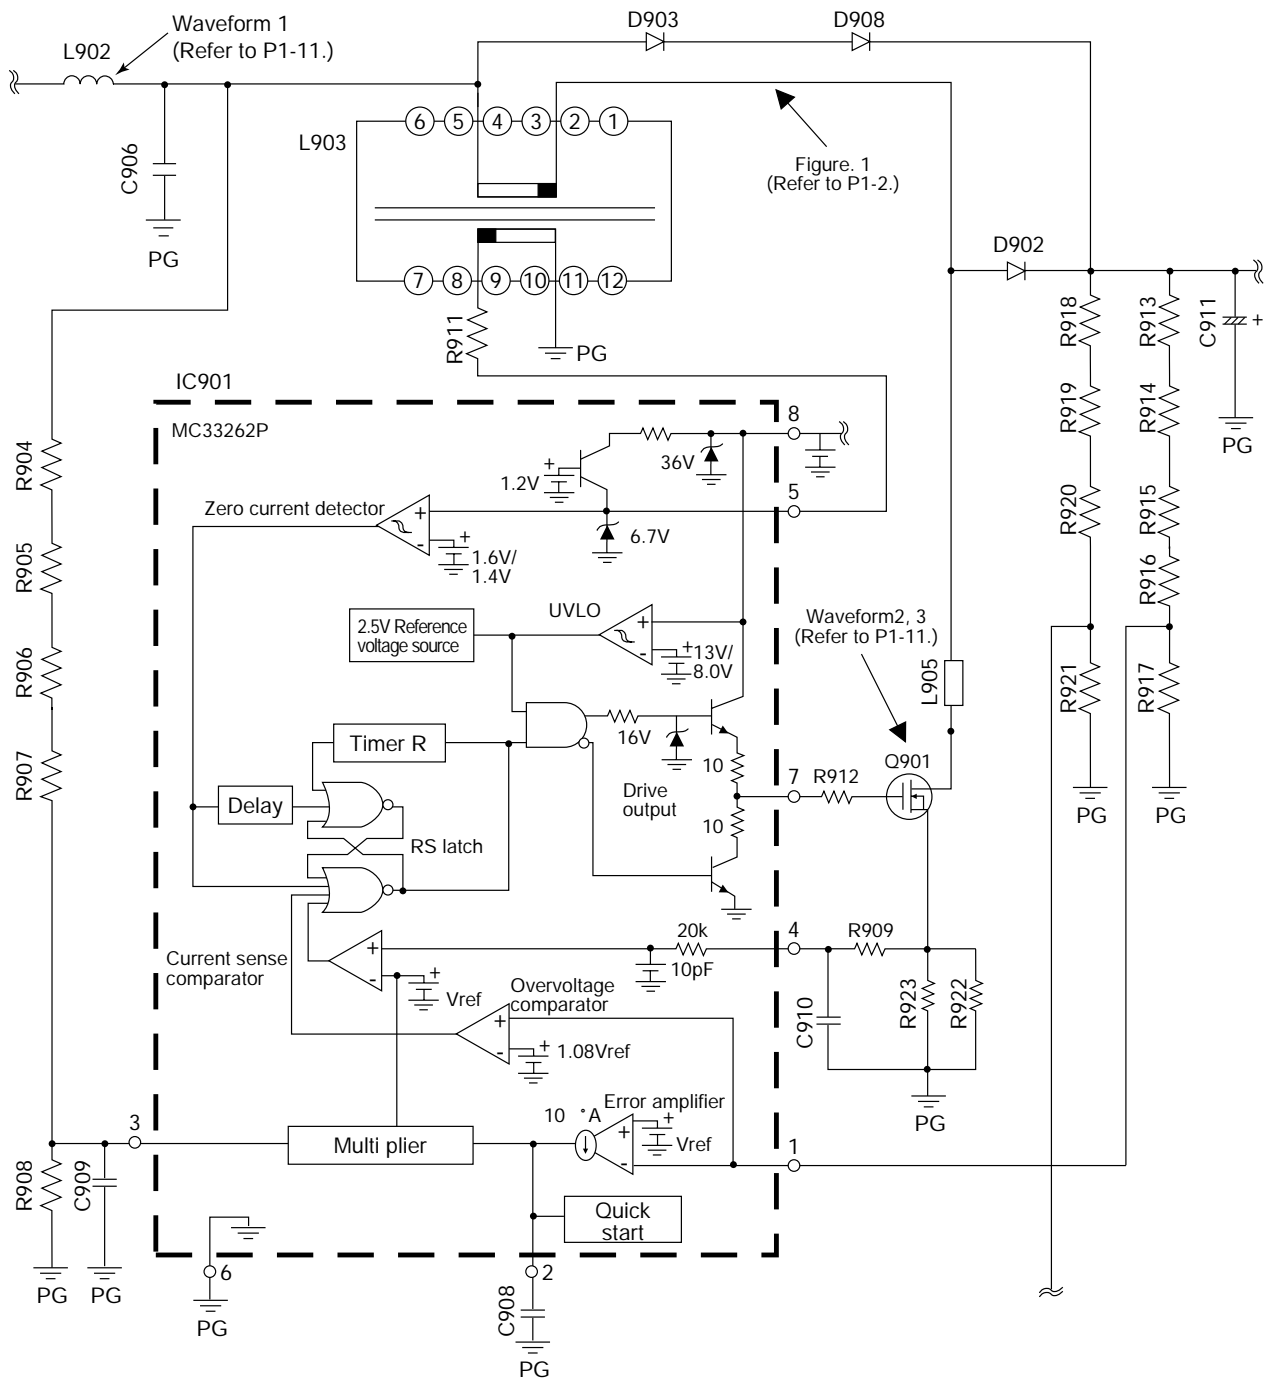

Figure 2. High harmonic waveform circuit
- (2) For the AC input voltage, the AC input current of the sine wave type in the same phase flows to achieve the power circuit of improved power factor and reduced higher harmonic wave component.
- (3) L903 is the choke coil, Q901 is MOS FET, D902 is the rectifying diode, C911 is the block capacitor, and IC901 is the power factor improved controller. The power factor improved controller uses MC33262P of Motorola. (See Fig. 2)
- (4) After the sub power starts, P-SUS signal becomes HI when +5V voltage is supplied to the MPU. Then, Q902 is turned ON, the voltage of approx. +18V is supplied to pin8 (VCC terminal) of IC901 through D940 from pin2 of T902, and the following operation is started.
- (5) The pulsating voltage waveform rectified in the full wave mode by D901 is divided with R904, R905, R906, R907 and R908 (100VAC : 1.1Vp-p and 240VAC: 2.9Vp-p), and is input to pin3 of IC901 (Multiplier input). Moreover, the output (+side of C911: 400VDC) of the higher harmonic circuit is divided with R913, R914, R915, R916 and R917 (2.5VDC), and is input to pin1 of IC901 (error amplifier input).
- (6) The output of the error amplifier and the divided waveform of the pulsating voltage input to pin3 of IC901 sets the threshold voltage of the current sense comparator to control the Q901 flowing current from zero to the peak line of the AC input voltage in the sine wave pattern.
- (7) When Q901 is turned ON, the drain current of Q901 flows to R922 and R923 to drop the voltage, and the voltage generated by the voltage drop is input to pin4 (current sense input) of IC901. When the voltage reaches the threshold voltage of the current sense comparator, Q901 is turned OFF.
- (8) When Q901 is turned OFF, the accumulated energy of L903 starts to be supplied to the load through D902.
- (9) As the accumulated energy of L903 drops, the auxiliary coil voltage (pin8 of L903) also drops. When it reaches the threshold voltage of *zero current detector, Q901 will be turned ON again.
- (10) The above operation is repeated to continue the oscillating operation. Thus, the DC voltage (L903, Q901, D902 and C911 compose the voltage rise circuit.) is gained on the output, and the AC input current of the sine wave in the same phase with the AC input voltage is gained on the input side.